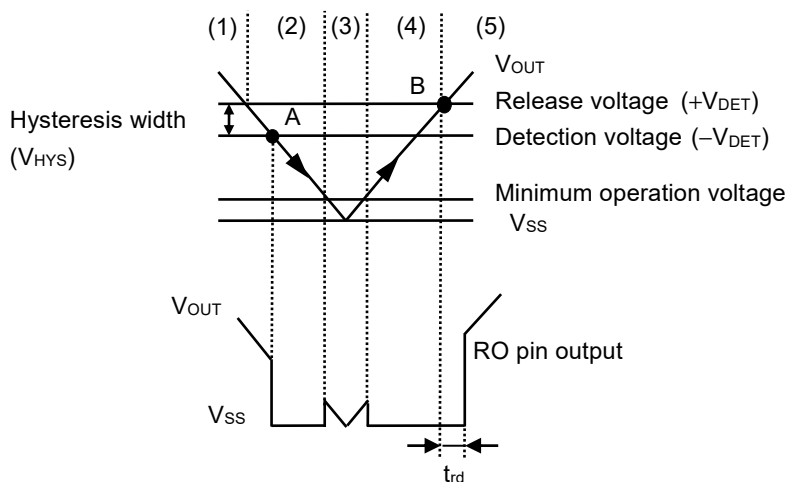

Figure 35 Timing Chart of Detector Block
- (1) When the output voltage (V_{OUT}) of the regulator is release voltage ($+V_{DET}$) of the detector or higher, the Nch transistor (N1 and N2) are turned off and "H" is output to the RO pin. Since the Pch transistor (P1) is turned on, the input voltage to the comparator (C1) is $\frac{R_B \cdot V_{OUT}}{R_A + R_B}$.
- (2) Even if V_{OUT} decreases to $+V_{DET}$ or lower, "H" is output to the RO pin when V_{OUT} is the detection voltage ($-V_{DET}$) or higher. When V_{OUT} decreases to $-V_{DET}$ (point A in **Figure 35**) or lower, N1 which is controlled by C1 is turned on, and C_{DLY} is discharged. If the DLY pin voltage (V_{DLY}) decreases to the lower reset timing threshold voltage (V_{DRL}) or lower, N2 of output stage of C2 is turned on, and then "L" is output to the RO pin. At this time, P1 is turned off, and the input voltage to C1 is $\frac{R_B \cdot V_{OUT}}{R_A + R_B + R_C}$.
- (3) If V_{OUT} further decreases to the IC's minimum operation voltage or lower, the RO pin output is "H".
- (4) When V_{OUT} increases to the IC's minimum operation voltage or higher, "L" is output to the RO pin. Moreover, even if V_{OUT} exceeds $-V_{DET}$, the output is "L" when V_{OUT} is lower than $+V_{DET}$.
- (5) When V_{OUT} increases to $+V_{DET}$ (point B in **Figure 35**) or higher, N1 is turned off and C_{DLY} is charged. N2 is turned off if V_{DLY} increases to the upper timing threshold voltage (V_{DU}) or higher, and "H" is output to the RO pin.